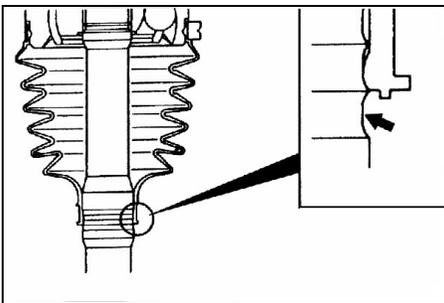

Fig.12-33
④ Install the R.J. boot with the part with the smallest diameter in a position such that the shaft groove can be seen.(see Fig.12-33)。